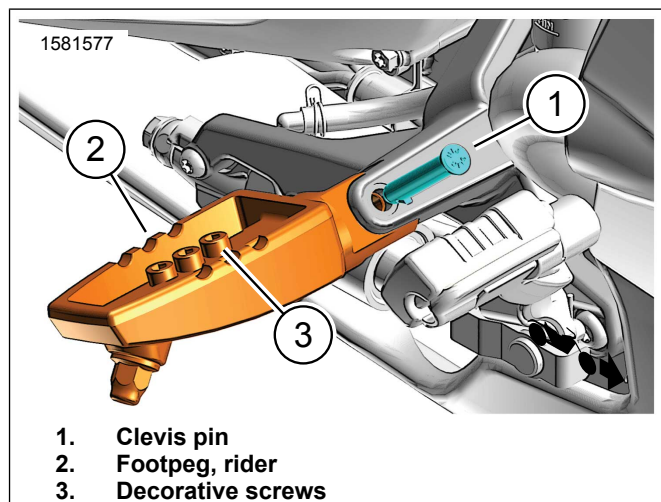

Figure 4. Install Footpeg Assembly w/ Spring Loaded Detent
2. **Models equipped with Revolution Max engines:** See Figure 4. Depress spring loaded detent and remove clevis pin (1).
3. Save all hardware including torsion spring (1) for installation of **new** footpegs (3).
5. **Models equipped with Revolution Max engines:** See Figure 4. Install clevis pin (1).
See Figure 4. Screws on centerline of footpegs are for decorative purpose only. Do not tighten.